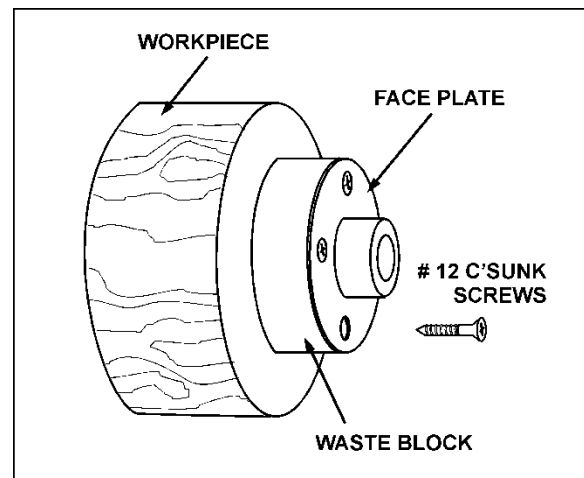

Figure 10-9: faceplate mounting
5. Make a block the same diameter as the face plate, Figure 10-9. Both waste block and workpiece should have flat surfaces for gluing.